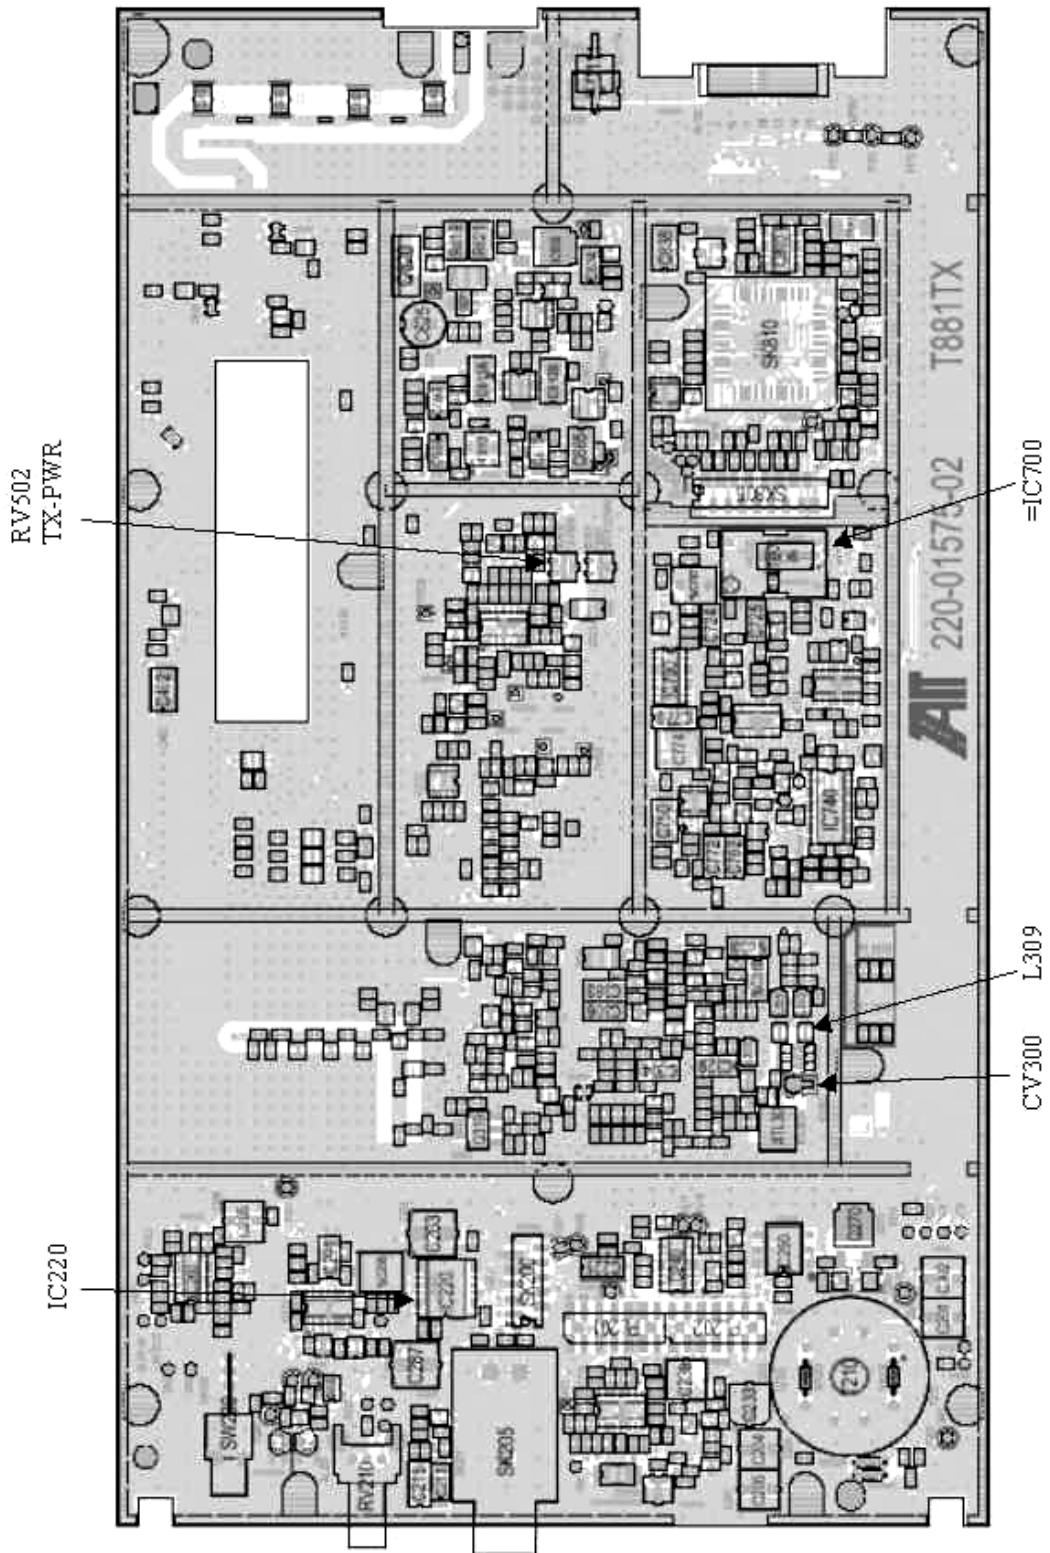

Figure 18 - T881-0200 Exciter Tuning Controls location
Note 1: Refer to Figure 18 (T881).
- T881 = 5W +0/-300mW (RV502, Figure 18)